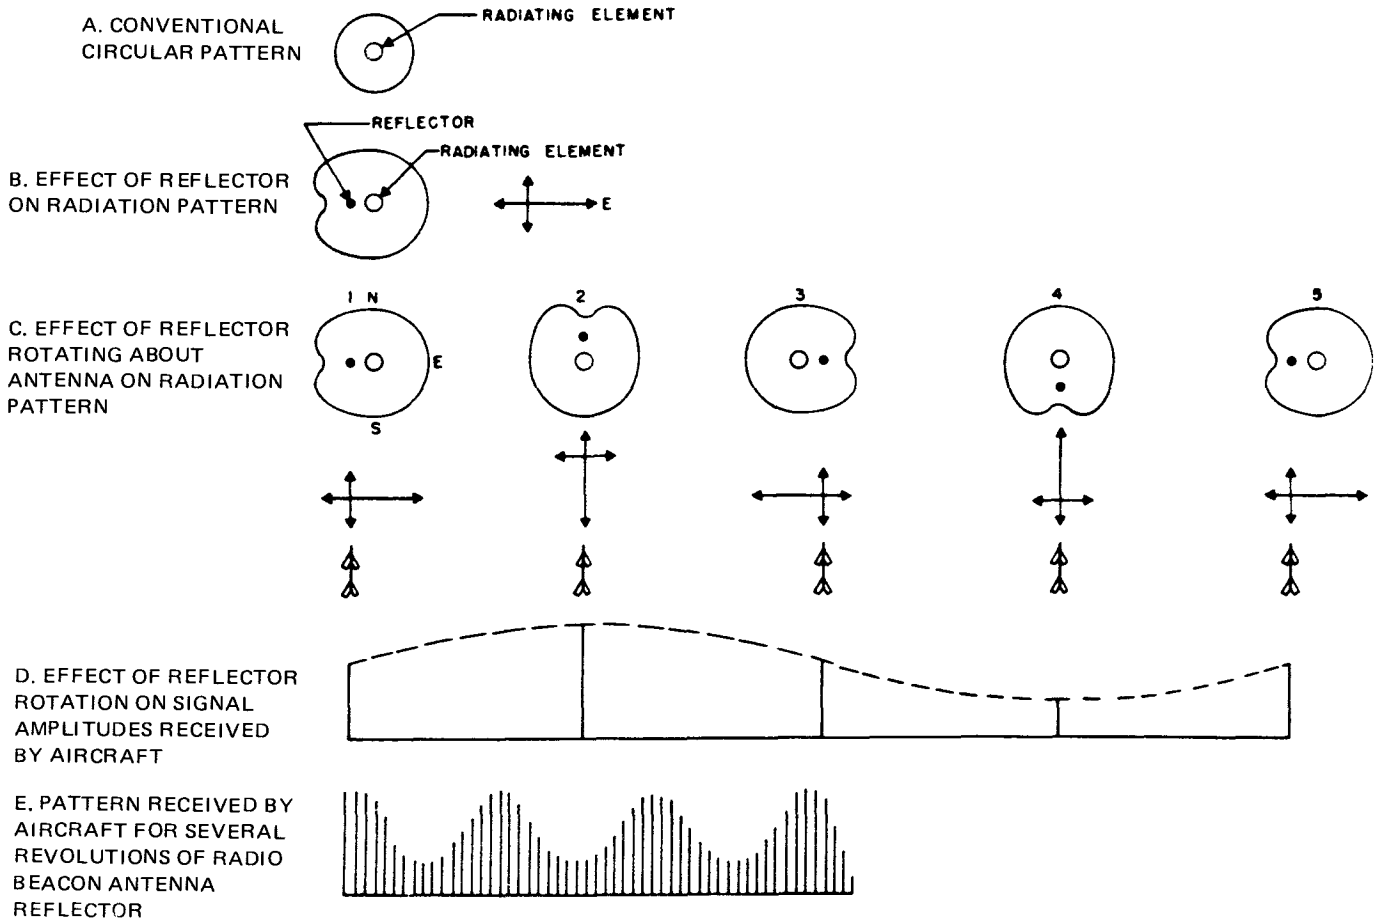

Figure 4-2. Development of Radio Beacon Radiation Pattern
A 15-cps amplitude-modulation component is imposed on the r-f energy radiated by the beacon antenna. Figure 4-2 shows how modulation is imposed on the field of r-f energy radiated by the antenna.
Waveshape A in figure 4-2 shows a conventional circular antenna pattern. Waveshape B in figure 4-2 shows the same antenna pattern as it is affected when a fixed reflector is placed in the field of energy radiated by the antenna. The pattern becomes a cardioid. The field of r-f energy is at its maximum in the direction (E) opposite to the reflector.
When the reflector is rotated about the radiating element of the antenna the effect is a cardioid pattern, similar to waveshape B, shown in figure 4-2, which rotates about the axis of the antenna at the same rate as the reflector. Waveshape C, shown in figure 4-2, shows five of the positions taken by the antenna pattern during the 360-degree rotation of the reflector. In the case of pattern No. 1, an aircraft located at a position due south of the beacon antenna would receive a half-amplitude signal. If the antenna were rotated through 90 degrees (pattern No. 2), the same aircraft would receive a signal at maximum amplitude. Rotating the antenna another 90 degrees (pattern No. 3) would cause the aircraft to receive a half-amplitude signal of diminishing strength. Still another 90-degree rotation of the antenna (pattern
The relative amplitudes of the signals received by the aircraft for one complete revolution of the antenna reflector are shown for comparison purposes in waveshape D of figure 4-2. Although the total beacon output is of constant amplitude through the full 360-degree rotation of the reflector, the signal received by an aircraft at any given point around the beacon will vary in amplitude, as explained above.
The amplitude variation of the envelope of the pulses received by the aircraft follows a sine-wave (approximate) pattern (waveshape E of figure 4-2), the frequency of which corresponds to the rate of rotation of the reflector around the antenna. Since the reflector rotates about the beacon antenna at a 15-cps rate, an aircraft at any given point in space within range of the beacon will detect the complete sine wave 15 times per second. Note that a 15-cps rate of rotation corresponds to 900 revolutions per minute (rpm).